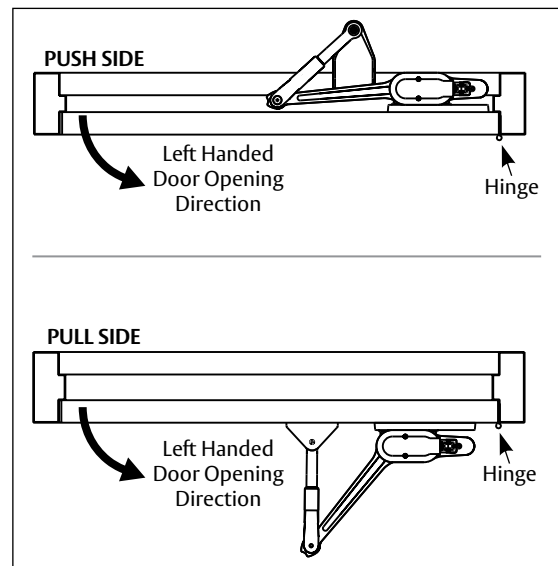

Figure 2
2. Determine if installation is push side mount or pull side mount. (Figure 2)